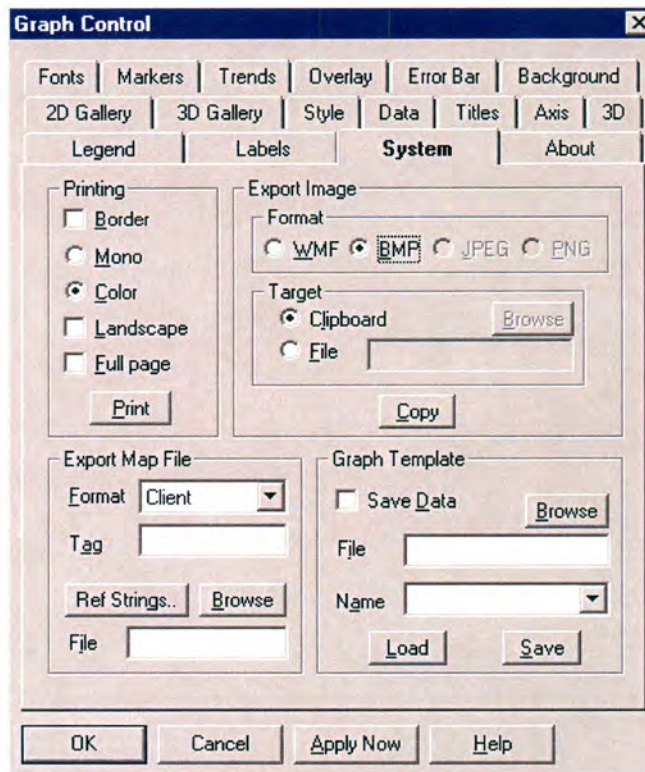

Fig. 21 Graphic Control to Modify the Configurations of the Plots
- Click **Graphic Control** to modify the configuration of the plots seen above (**Fig. 21**). The properties of the above figures (colors, titles, borders, scale, line thickness, etc.) can be modified if desired via the browser of the Graphic Control.
- A copy of the plot can be stored in the clipboard and pasted into other software (such as MSWord). Click Graphic Control and then click System to open the window shown in **Fig. 21**. Choose BMP, Clipboard and then click Copy. Now the figure is ready to be pasted as a picture in any file.